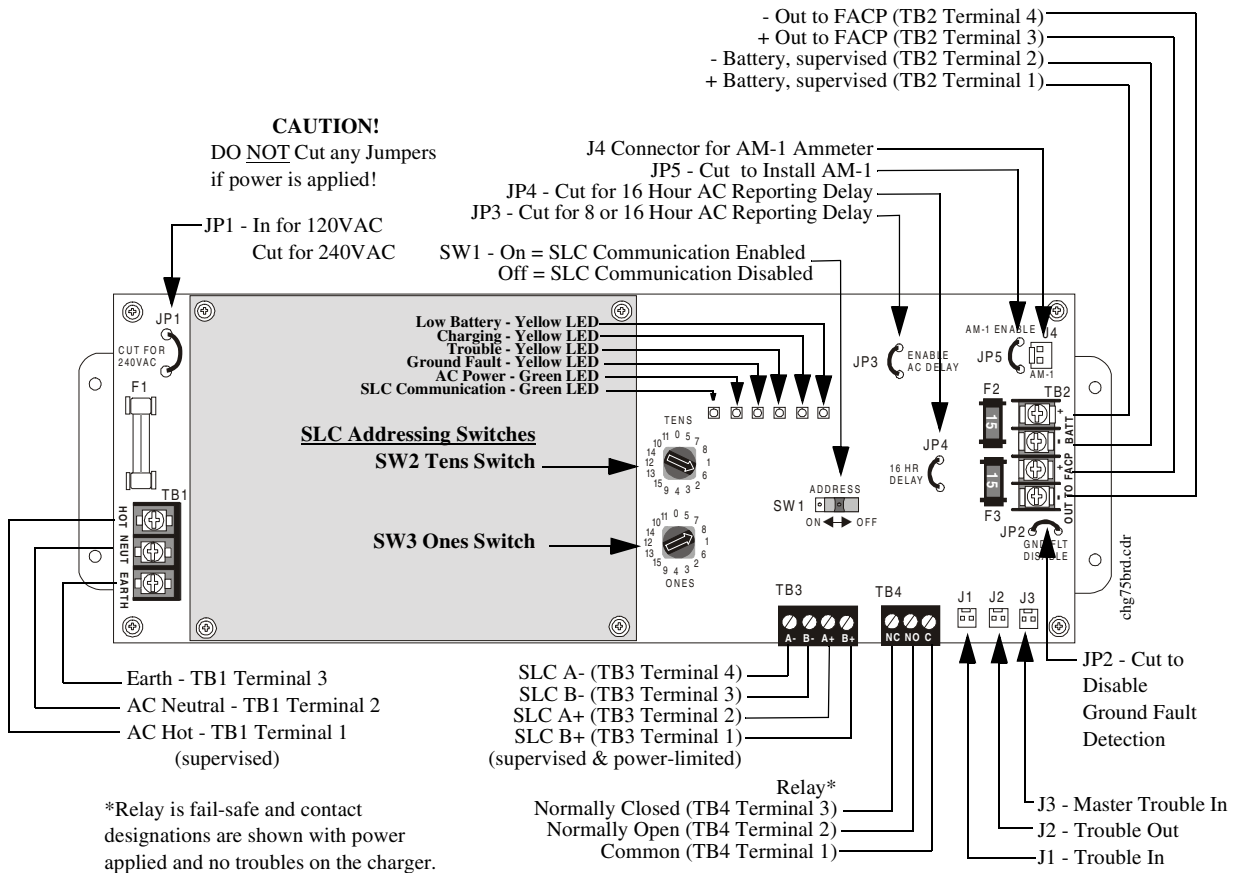

Figure 2.1 Charger Components
Slide switch SW1 is used to enable and disable the SLC communication between the CHG-75 and the FACP. Positioning SW1 to the left (ON) will enable SLC communication while positioning the switch to the right (OFF) will disable communication. Refer to Figure 2.1 on page 10, for the location of switch SW1.
Refer to Figure 2.1 on page 10, for location of the jumpers.
Cut jumper **JP2** to disable reporting of a local ground fault condition. The charger’s ground fault detection circuit might be disabled when the charger is connected to equipment with its own ground fault detection circuit to prevent *competition* between the two circuits. Note that Ground Fault detection is required in Canada. Refer to Figure 2.1 on page 10, for location of the jumper.
Cut jumper **JP5** to enable the operation of the AM-1 Ammeter when installed on the CHG-75 charger. Refer to Figure 2.1 on page 10, for location of the jumper.